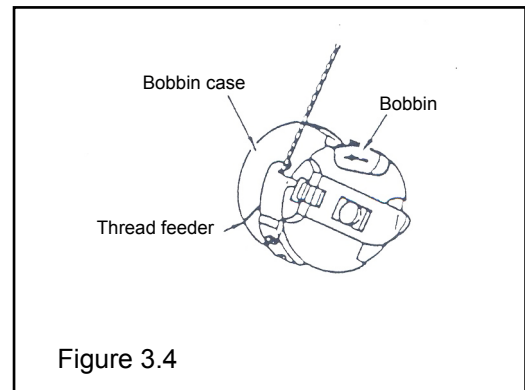

Figure 3.4
- Set the bobbin in the bobbin case in such a way that the bobbin will rotate in the direction as shown by arrow in Figure 3.4 when thread is pulled out.